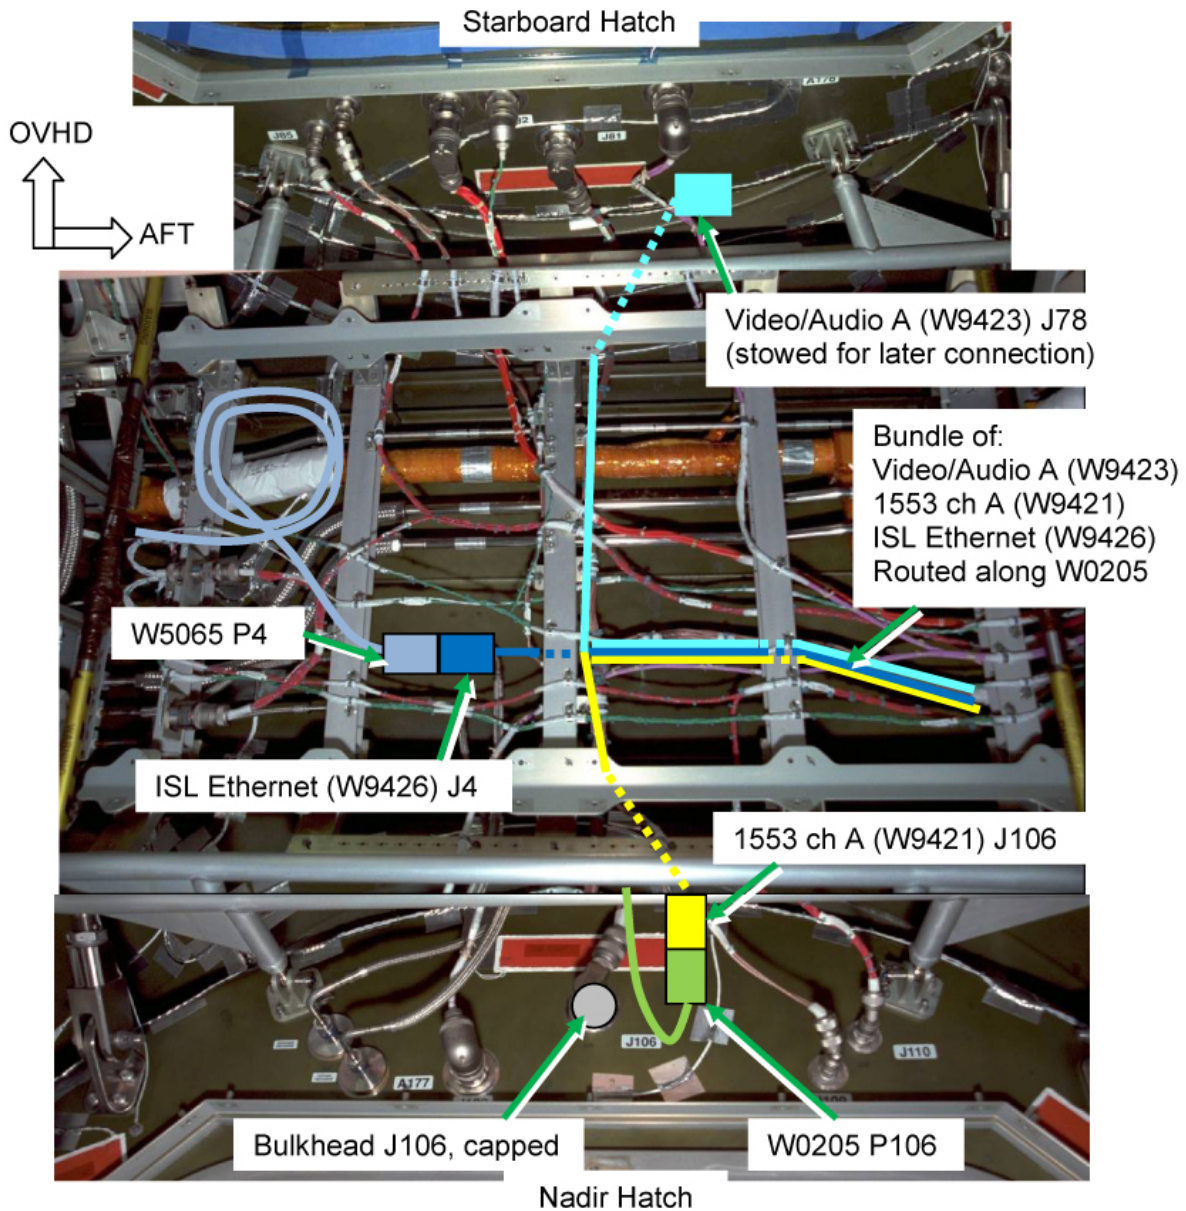

Figure 30. Routing Cables in NOD1SD2 Area.
- 15.21 Restrain NOD1 ISL Ethernet Cable (W9426) on same routing path as W0205 in NOD1SD2 area as shown in Figure 30.
- 15.30 Restrain NOD1 1553 CH A Cable (W9421) on same routing path as W0205 in NOD1SD2 area as shown in Figure 30.